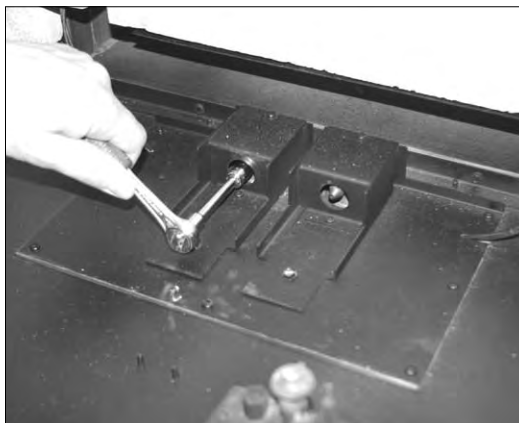

Figure 54: Removing the Gas Orifices.
9. Using a $\frac{3}{8}$ " socket wrench, remove both gas orifices from the orifice mounting brackets at the rear floor of the firebox (Figure 54).